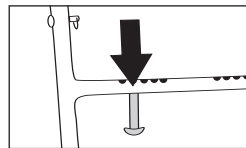

Figure 2E
- II. Slide clevis pin out of frame (Figure 2E).